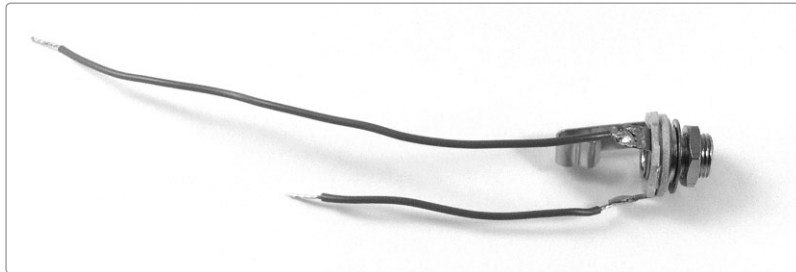

FIGURE 5-6: *The wired audio jack*
Step 4 Wire up the jack. Solder a short wire to the jack’s tip lug, which is connected to the long, hooked metal tongue that makes contact with the plug’s tip, and solder the long wire to its sleeve lug, which is also its ground. Jack anatomy is illustrated in “Quarter-Inch Phone Plugs and Jacks” on page 337, and the wiring of this jack is shown in Figure 5-6. If you’re skipping the switch, then just solder one wire to each lug of the jack.